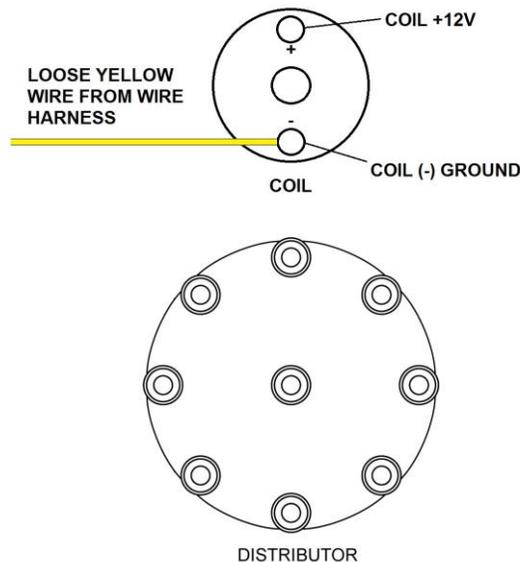

Figure 33
- 2) Any engine equipped with a factory mechanical advance distributor and separate canister style coil. This would include any points style distributor (Figure 33).
Figure 33 below shows how to connect to a factory style ignition with a canister style coil.